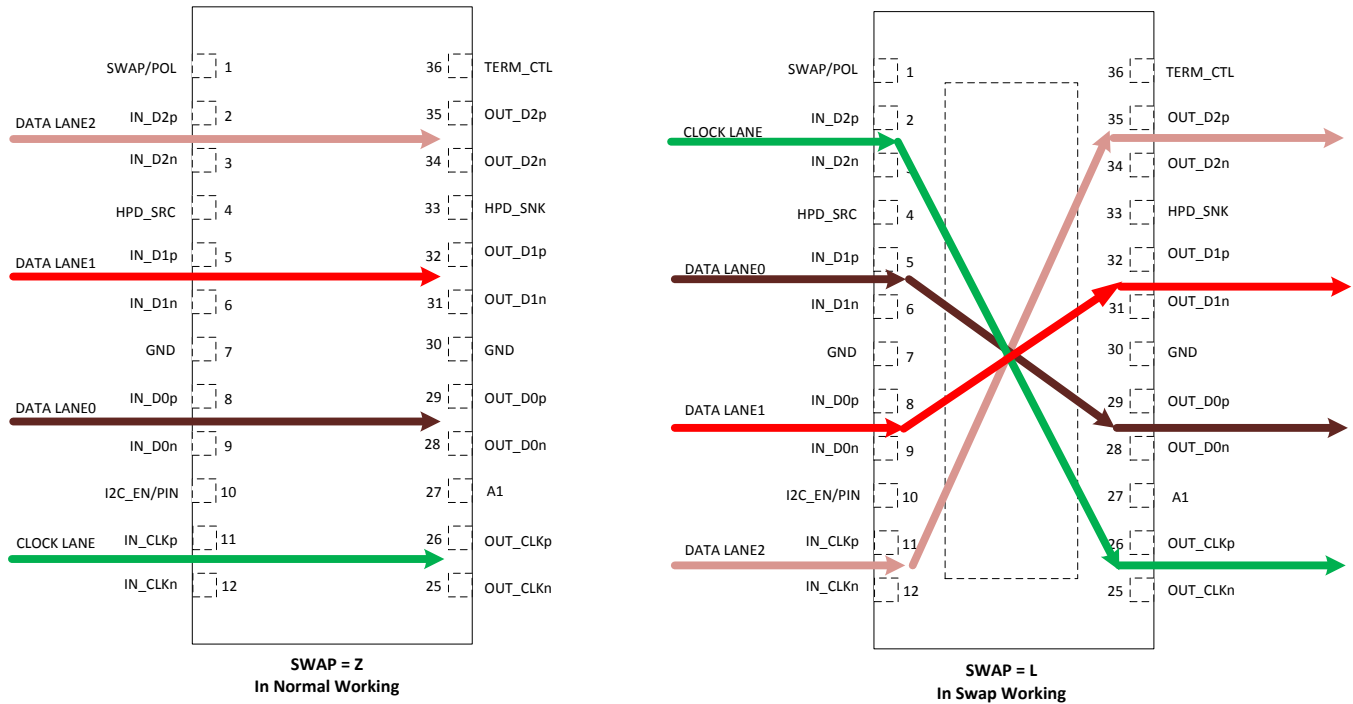
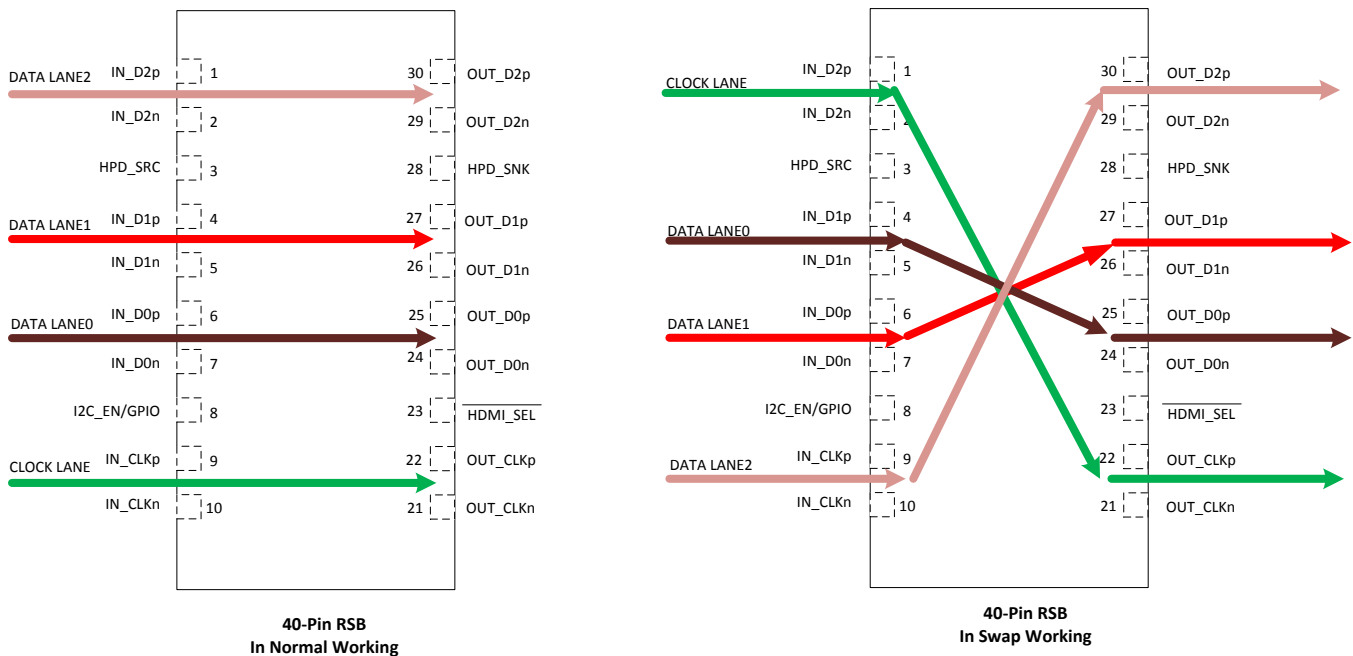

图 24. SNx5DP159 Swap Function for 48 Pins
图 25. SNx5DP159 Swap Function for 40 Pins
(1) The output lanes never change. Only the input lanes change. See 图 24 and 图 25.